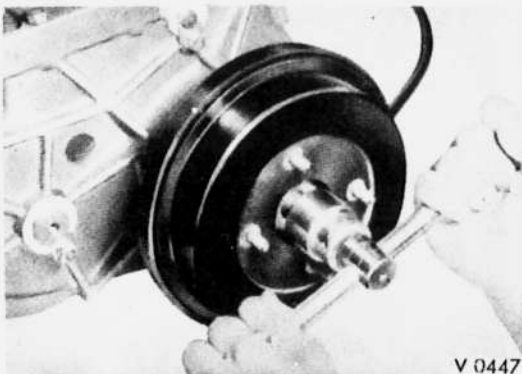

Fig. 3-23. Removing the center brake drum from the transfer drive shaft.
16. Remove the cotter pin, hexagon nut and washer that secure the center brake drum to the transfer drive shaft. (Fig. 3-23)